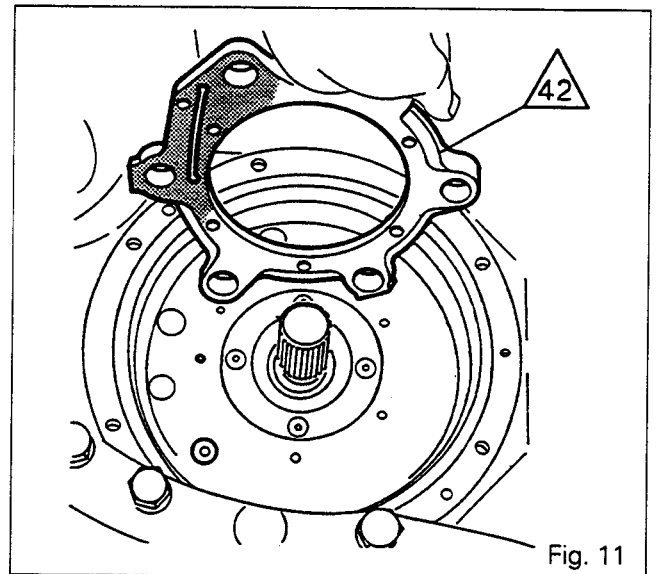

Fig. 11
29. Fit the primary sun gear (64) along with the retaining ring (62) and oil deflector (75) on the secondary planetary carrier (39).
30. Slide the three needles (63) to each hole in the primary sun gear, fully home in the groove on the secondary planetary carrier.
31. Position the bearing (58) and fit the retaining ring (60).
32. Assemble the secondary planetary carrier on the primary planetary carrier (28). Turn the planetary pinions to facilitate meshing.
33. Position the spacer (56) and the bearing (57), and fit the circlip (55).
35. Fit the retaining ring (49) on the secondary sun gear (61) (if it was removed).
38. Coat the mating face of housing (42) with a sealing compound around the lubricating pipe (Fig. 11) and then fit it.
39. Tighten the bolts (43) to a torque of 31 to 35 Nm after coating them with Loctite 241.